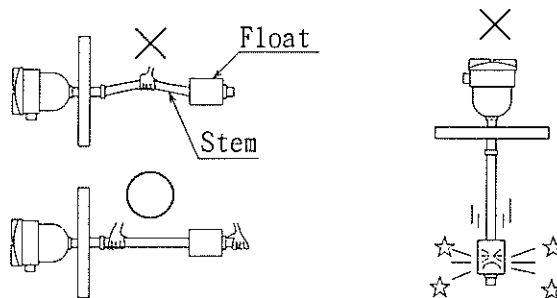

Fig. 8
- (1) Do not carry the sensor with one hand, use both hands to protect the long stem from bending. (See Fig. 8.)
- (2) Hold the float not to hit the stopper or the flange. Otherwise, the magnet inside the float will be cracked. (See Fig. 8.)